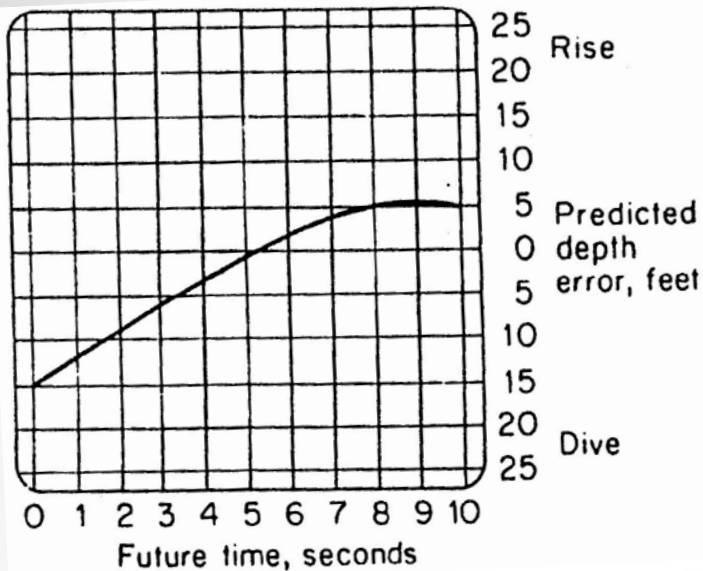

FIGURE 10-17.
1. Figure 10-17: present & predicted path of submarine (10 s)